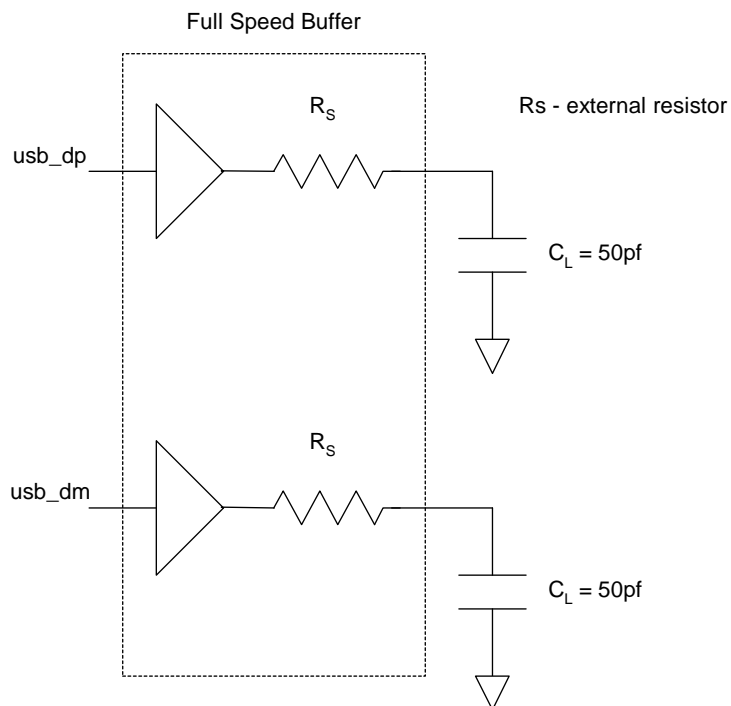

Figure 141: USB internal PHY full speed load
- 1 Load shown in Figure 141, "USB internal PHY full speed load," on page 778.